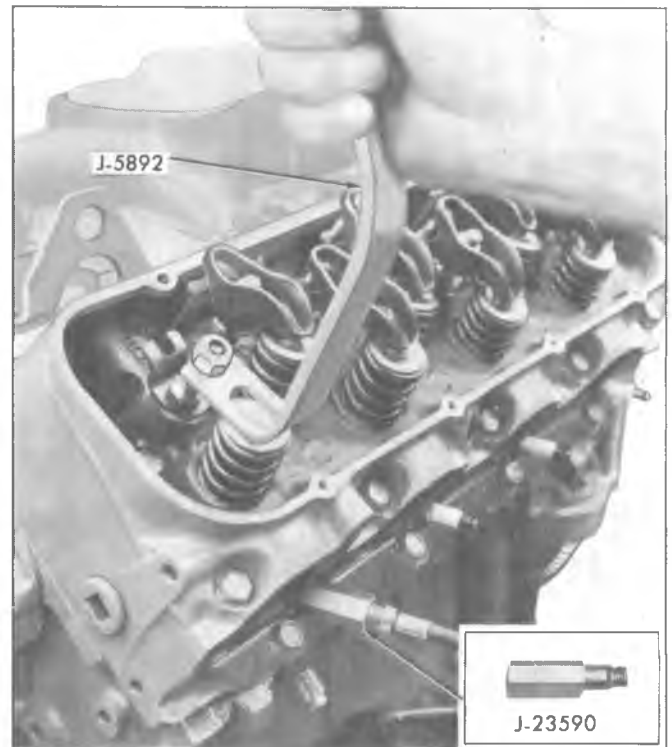

Fig. 3V—Compressing Valve Spring
4. Using Tool J-5892 to compress the valve spring, remove the valve locks, valve cap and valve spring and damper (fig. 3V).